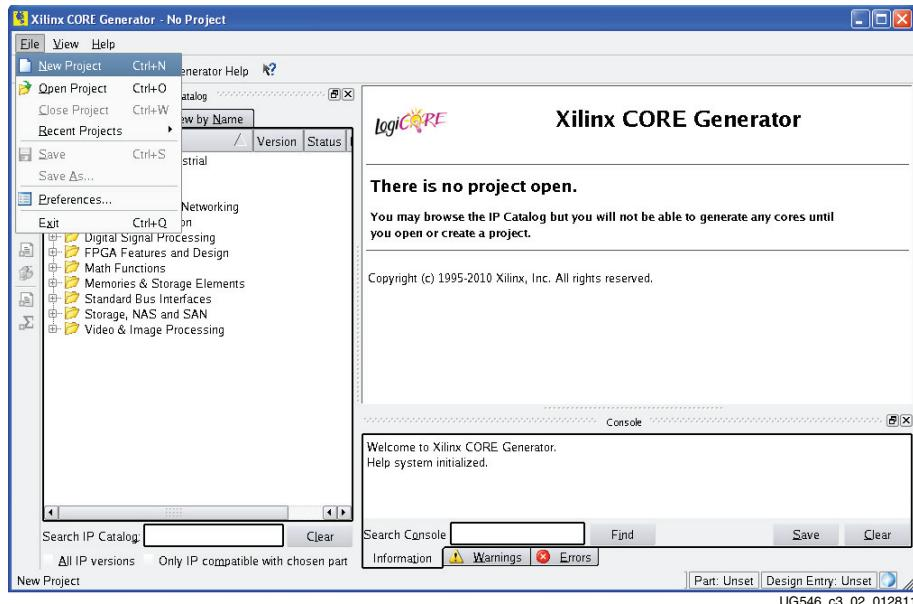

Figure 3-4: Starting a New Project
3. Choose **File → New Project** (Figure 3-4).